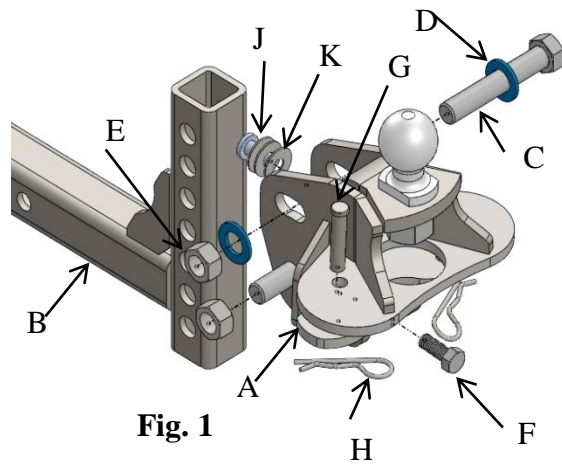

Fig. 1
- Insert the spring bars into the ball mount (A) and secure with pin (G) and clip (H). Apply a lubricant on the spring bars as you insert them into the ball mount.
- With the trailer coupled to the ball and the trailer setting level, (use the tongue jack to level the trailer), the angle adjustment in the ball mount should have the spring bar 3" below the friction pad for the 400 lb. system and 4" below the friction pad for the 600 lb. system. See Fig. 5. If needed add or subtract washers (K) shown in Fig. 1 to get the needed dimension. Each washer added will move the spring bars down approx. 5/8" to 3/4".
- Install and tighten bolt (F) shown in Fig.1
- Remove clip (H) and pin (G), fig. 1. Pull the spring bar out of head (A).